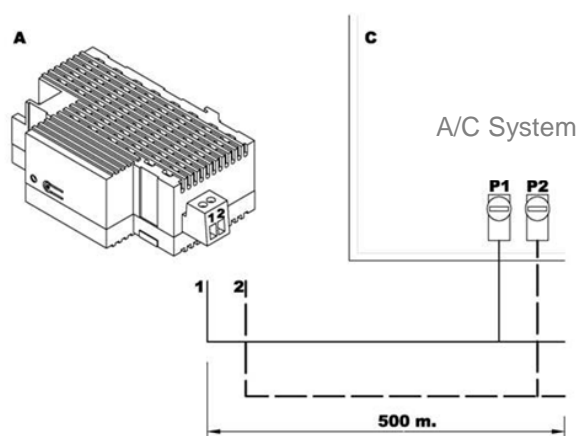

Figure 2. Connecting KLIC-DI to the P1/P2 Bus (Master Mode).
KLIC-DI connects to the KNX bus via the corresponding built-in terminals (1). On the other hand, this device is connected to the internal PCB board of the A/C unit (P1/P2 connectors), using a 2-wire cable. See Figure 2.